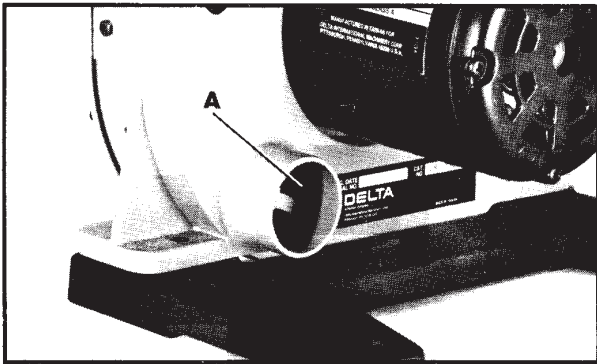

Fig. 30
A dust chute (A) Fig. 30, is supplied with your bench band saw and is equipped with a 1-1/2" I.D. opening that can easily be connected to a dust collection system.